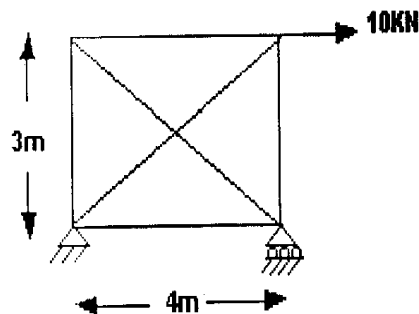

Figure 4:
8. Analyse the frame shown in Figure 4. All the members have same cross sectional area of 20cm^2 . E is same for all the members. [16]